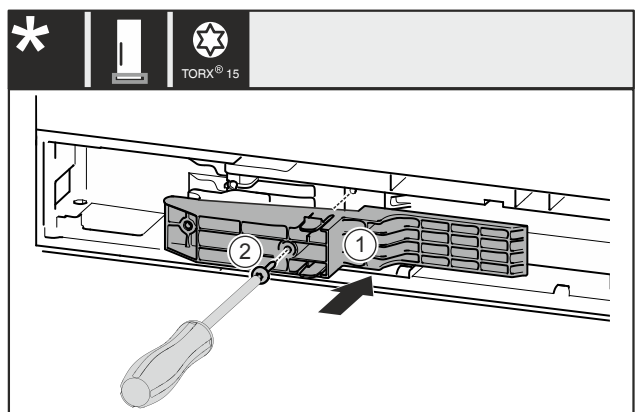

Fig. 52 *
- ▶ Insert adapter Fig. 52 (1) in the recess on the handle side.*
- ▶ Tighten screw Fig. 52 (2) with screwdriver.*